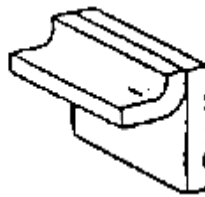

Figure 1
8. The type of joint shown in figure 1 below is;